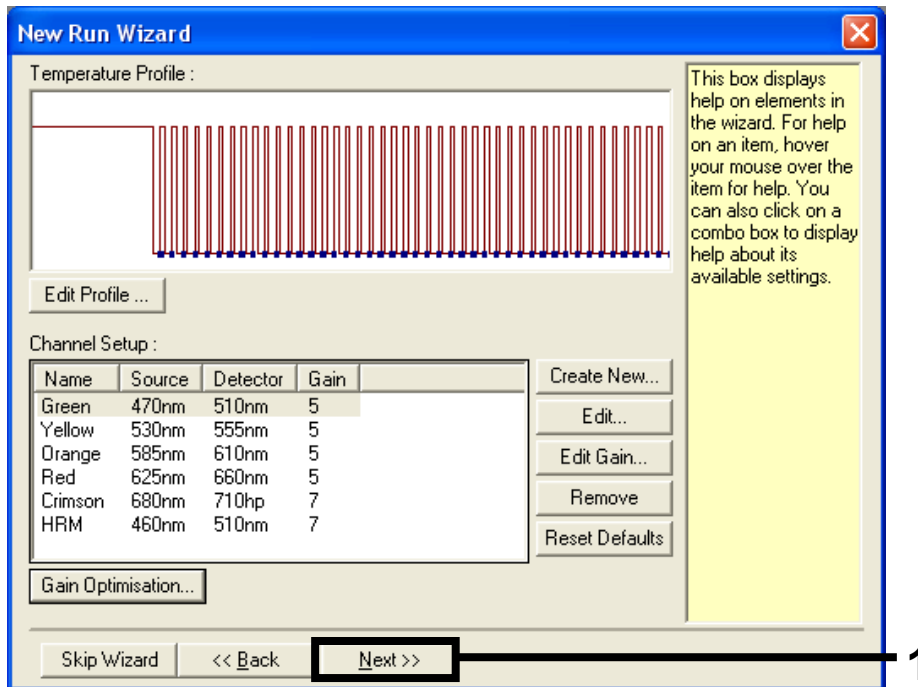

Figure 35. The "New Run Wizard" dialog box and temperature editing screen. (1 = "Next" button).
- The next window allows editing of the temperature profile. No editing is required as the temperature profile has already been created according to the instructions in "Protocol: Creating a temperature profile", page 55. Click "Next" (Figure 35).